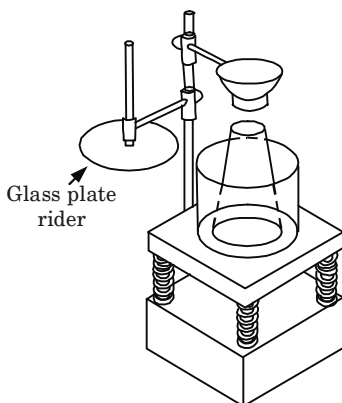

Fig. 4.7.1. Vee-Bee apparatus.
3. The test consists of moulding a fresh concrete cone in a cylindrical container mounted on a vibrating table (Fig. 4.7.1).